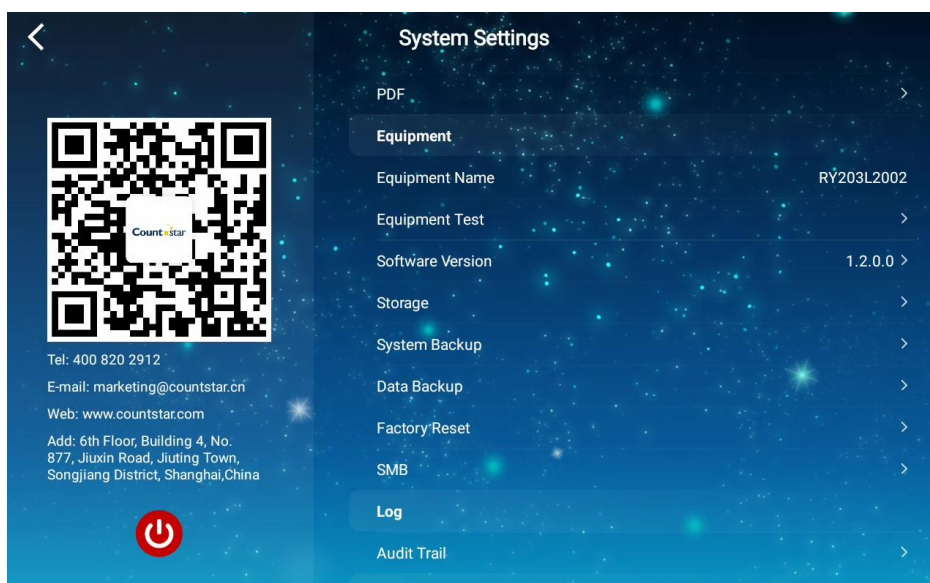

Fig. 2.89 System settings user interface with the red OFF icon below the WeChat QR code
- 1) To shut down the Countstar® Mira HT, the instrument needs to be turned on, and the user has to enter the **Systems settings** user interface, as shown in **Fig. 2.89**.